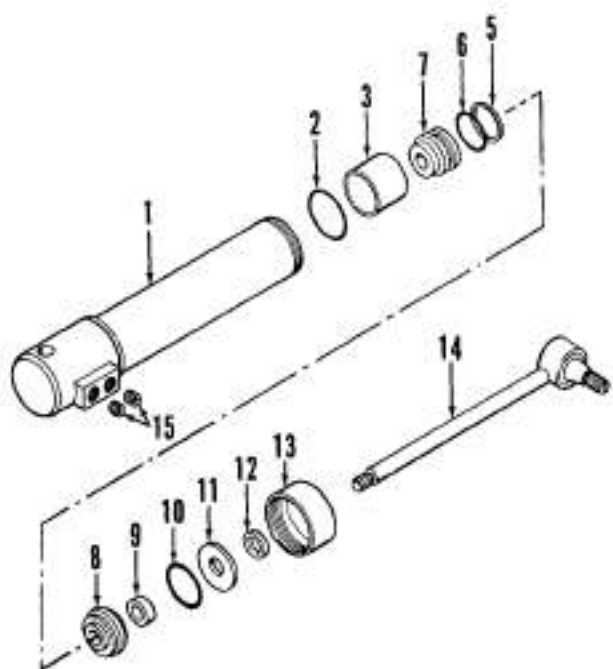

Fig. 19—Exploded view of steering control valve used on Models MF240 and MF250.
**16. OVERHAUL CONTROL VALVE.** To disassemble removed unit, remove snap ring (16—Fig. 19), washers and felt seal (15). Remove end cover mounting screws, then withdraw valve spool (7) assembly with end cover (2) and yoke (1). Unscrew yoke from spool and separate springs and washers from spool. Tap bypass valve piston (10), ball (12) and spring (13) from valve body. Remove relief valve spring and ball (17). Inspect all parts for wear or damage and renew if necessary. Renew all "O" rings when reassembling. Valve spool and body are available only as a matched set.